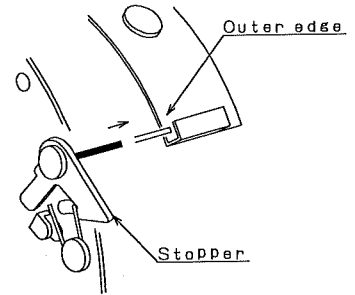

Fig.7
- When installing Plate assembly on Drum , place Stopper in the outer edge of Spring. (See Fig.7)